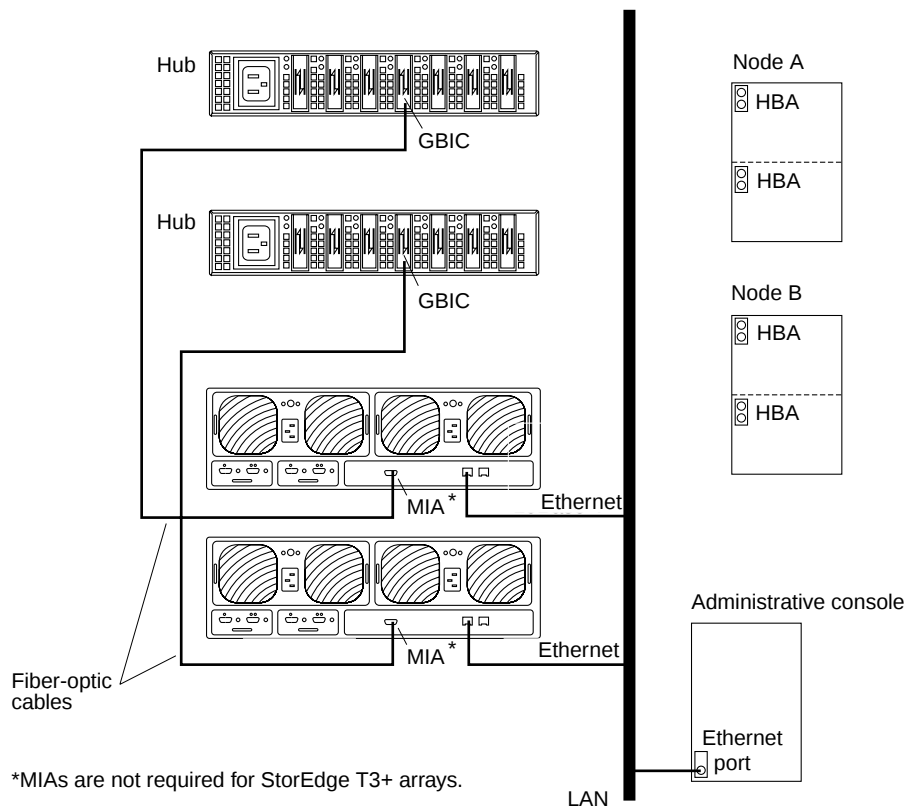

FIGURE 8-2 Adding a StorEdge T3/T3+ Array in a Single-Controller Configuration
Install the media interface adapter (MIA) in the StorEdge T3 array you are adding as shown in FIGURE 8-2.
3. **If necessary, install gigabit interface converters (GBICs) in the Sun StorEdge FC-100 hub as shown in FIGURE 8-2.**
4. **Install the Ethernet cable between the StorEdge T3/T3+ array and the Local Area Network (LAN), as shown in FIGURE 8-2.**
8. **Install a fiber-optic cable between the Sun StorEdge FC-100 hub and the StorEdge T3/T3+ array as shown in FIGURE 8-2.**
Note – Although FIGURE 8-2 shows a single-controller configuration, two arrays are shown to illustrate how two non-interconnected arrays are typically cabled in a cluster to allow data sharing and host-based mirroring.